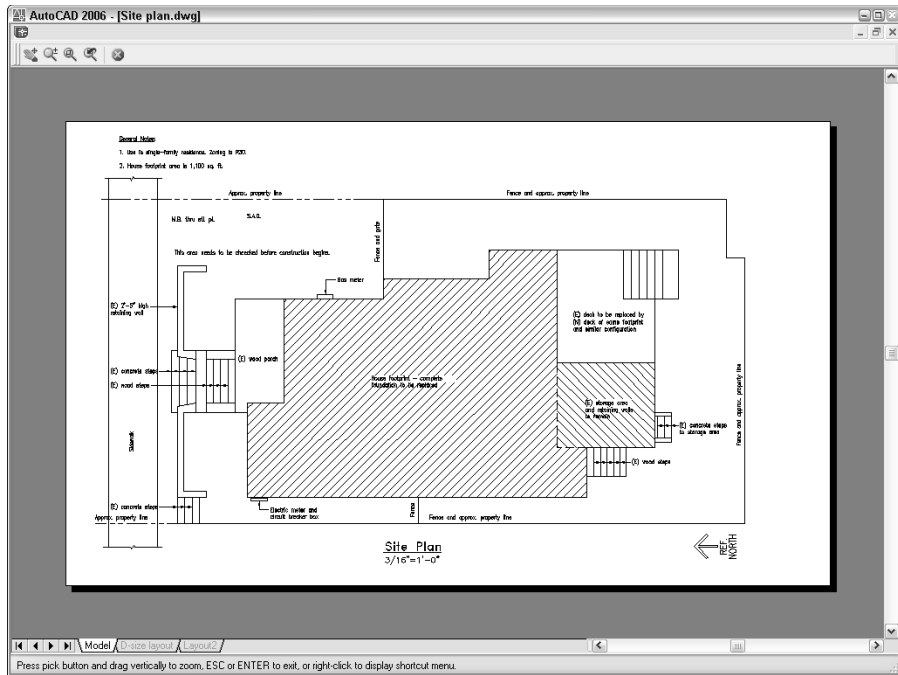

Figure 12-4:
- 14. Click the Preview button and check that the drawing displays on the paper at the correct orientation and size, as shown in Figure 12-4; then right-click and choose Exit to return to the Plot dialog box.**